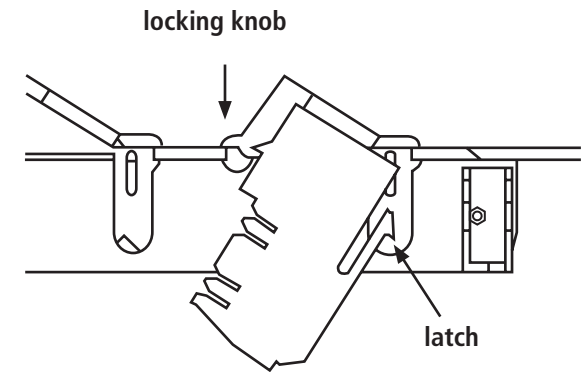

Figure 4. Loading the keystone jack or support fitting.
4. Load the wired keystone jack into the patch panel. Make sure the locking knob is locked first before sliding in the keystone jack or support fitting. See Figure 4.